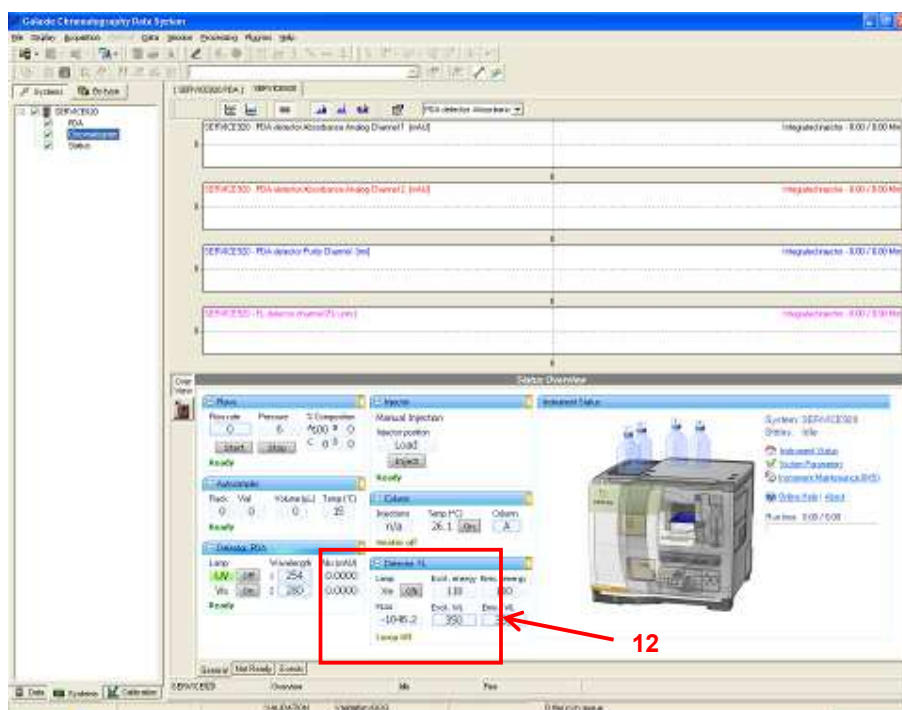

Figure 25: Galaxie system overview page
7. Close the window and reboot the computer and the 920-Series HPLC system. Once the system has finished its reboot, you can open the Galaxie software and you should see the newly installed Fluorescence detector (**12**) in the system page (see Figure 25). Configure the lamp settings in the System Parameters page, and the system has been successfully upgraded.